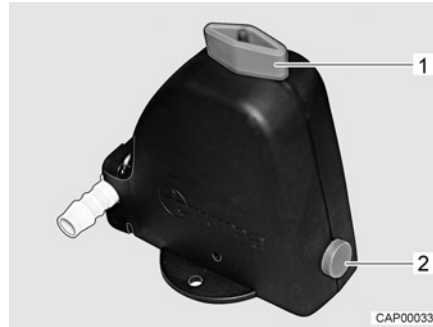
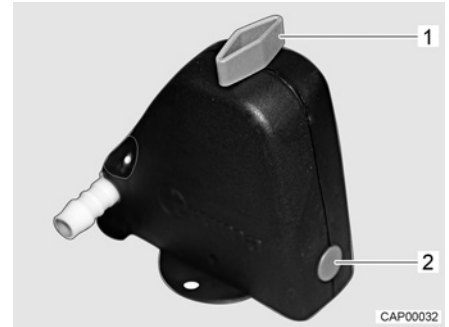

Fig. 101 Safety/drainage valve open
Fig. 102 Safety/drainage valve closed
- Close the safety/drainage valve. Turn the knob (Fig. 101,1) perpendicular to the safety/drainage valve and push the push button (Fig. 101,2) in. The closed safety/drainage valve is shown in Fig. 102.